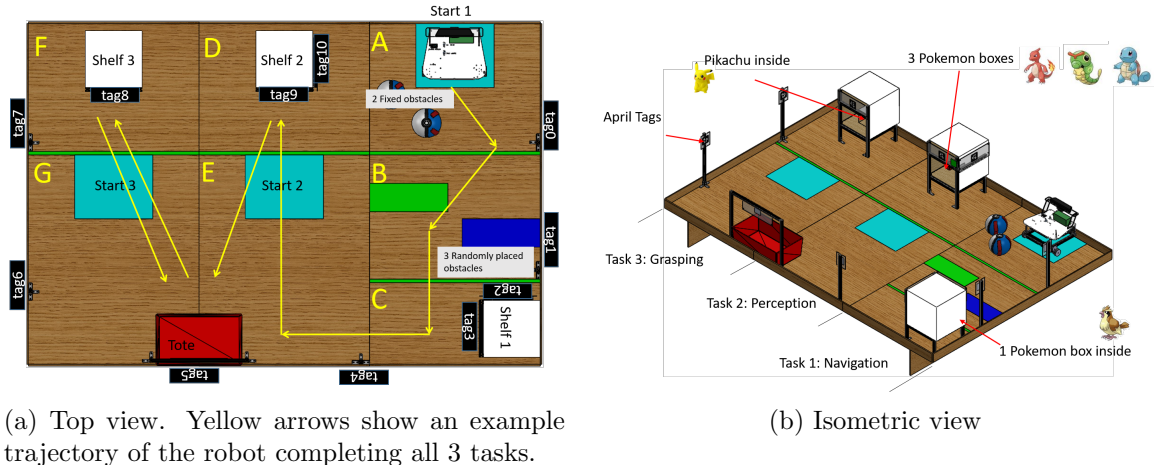
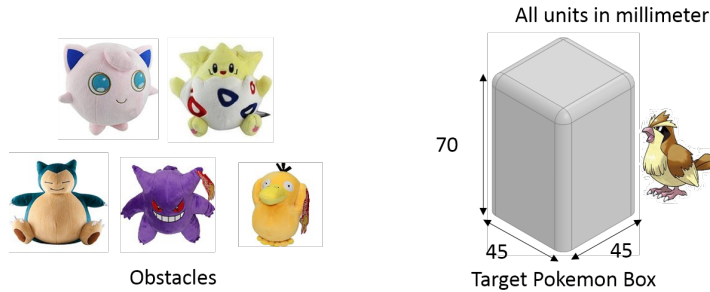

Figure 1: Overview of the PRC arena.
Figure 3: Task 1 objects
The arena is 12 ft (3.66m) by 8 ft (2.44m), which will be lifted off the ground by 1 ft (0.3m) with support structure. A 3D CAD of the arena will be posted on Website. A top view of the arena is shown in Figure 1. **For safety concern, only 1 person can be on the arena at the same time.** Detailed dimensions of the arena and objects are shown in Figure 2.
This task is on the right side of the arena shown in Figure 1. The robot should navigate from Start 1 position to in front of Shelf 1 and pick up a metallic box in which Pidgey lives. The metallic box will be pasted with Pidgey's picture.
There are 5 obstacles in total on the path that are shown as Pokeballs in Figure 1. In actual PRC, they will be 5 Pokemon characters of no larger than a 20-cm cube as shown in Figure 3. Note that the arena is separated by green lines with labeled sections. The obstacles in section A are fixed, and the ones in section B will be in a random configuration that allow the robot to go through.
This task is in the middle of the PRC board as shown in Figure 1. Before the run starts, the team leader will draw lots to decide which Pokemon box is the desired one for Task 2. Staff will Velcro a picture of the Pokemon to the shelf accordingly. The task is to pick the Pokemon box that matches this picture.
Team leaders can call for human intervention to have one team member put the robot to one of the starting point in any pose. The 3 starting points are labeled in blue in Figure 1. Every human intervention will cause a penalty of  $-1$ . The timer for the run will continue during intervention. That is, the intervention time will be counted into the time limit of 6 minutes. You are allowed as many human interventions during the round as you desire. For each human intervention, you will have the option of resetting the board (placing obstacles back into their starting locations if they have been moved) and/or resetting any Pokemon boxes/objectives to their starting locations. The other option is to leave the obstacles as they are, and to leave any Pokemon objectives as they are, be it on the playing field or on the robot. You cannot touch the objectives if they are to remain on the robot, nor release them from any grasper during this intervention. To restart the robot, you will be able to use a keyboard and a mouse to reset or restart code as needed. The white cardboard will not be used. The definition of being in a starting point is that all three wheels are contained in the region.
**09/28** Clarified the scoring of Task 2. Clarified the term “in the air” in Task 1. Converted all units to metric. Confirmed financial support and purchasing protocol. Added Fabrication section. Added AprilTag location in Figure 1.